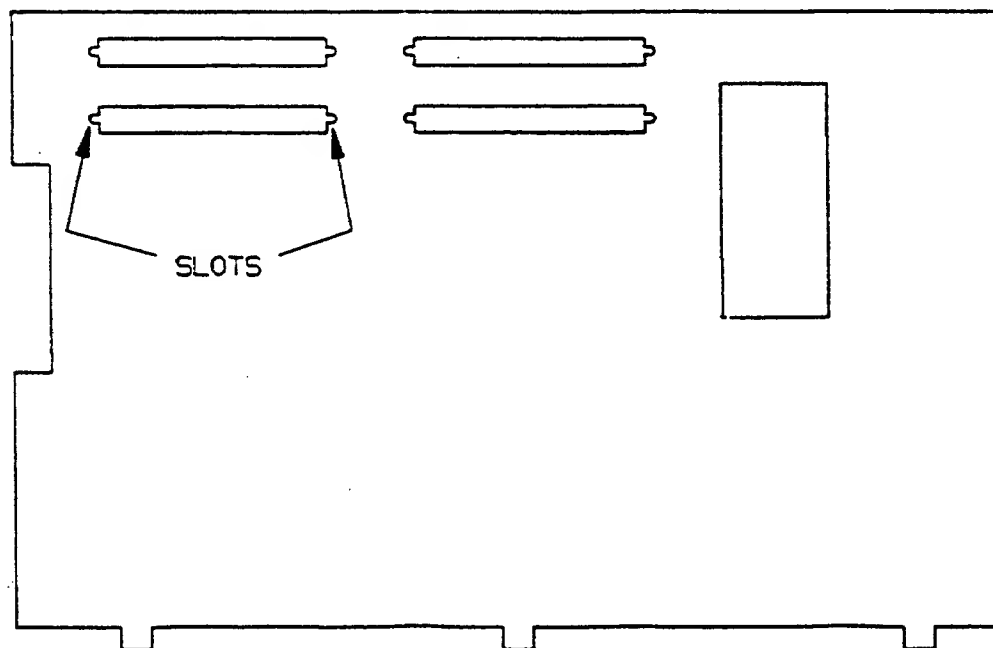

Figure 7-5. Pertec-compatible interface metal cover plate.
13. (Pertec-compatible) Inspect the connectors. The two rows of connectors should line up with the slots at the ends of the connector holes (see Figure 7-5). Apply gentle pressure as necessary to line up the connectors into the slots.